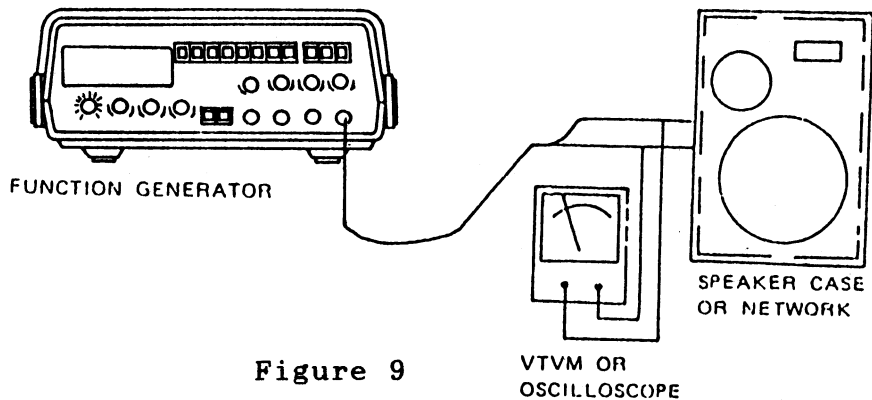

Figure 9
- (1) Connect the device under test as in Figure 9, can use oscilloscope in stead of voltmeter.